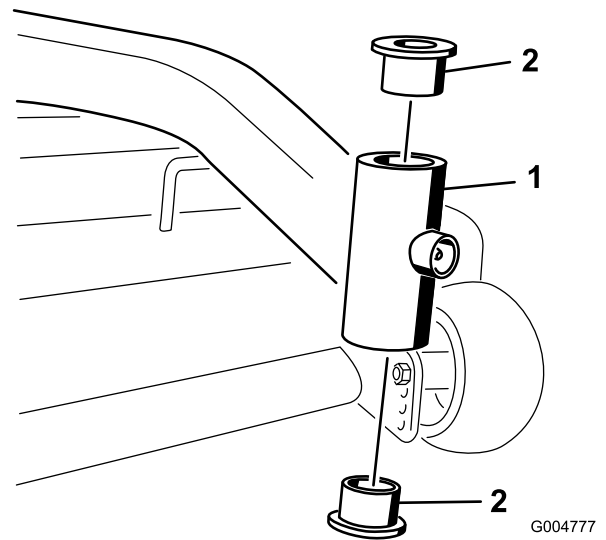

Figure 38
4. Insert a pin punch into the mounting tube and carefully drive out the bushings (Figure 38). Clean the inside of the mounting tube.